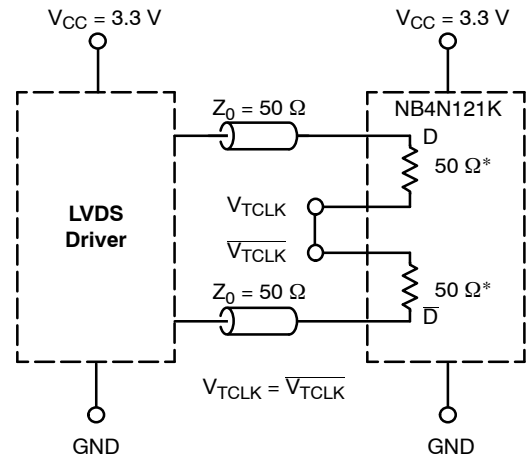

**Figure 9. Typical Termination Configuration for Output Driver and Device Evaluation**
- Input parameters vary 1:1 with  $V_{CC}$ . Measurements taken with outputs in either 1X (all outputs loaded  $50\ \Omega$  to GND) or 2X (all outputs loaded  $25\ \Omega$  to GND) configuration, see Figure 9. For 1X configuration, connect  $I_{REF}$  to GND, or for 2X configuration, connect  $I_{REF}$  to  $V_{CC}$ .
7. Measured by forcing  $V_{INPP}$  (MIN) from a 50% duty cycle clock source. Measurements taken with outputs in either 1X (all outputs loaded  $50 \Omega$  to GND) or 2X (all outputs loaded  $25 \Omega$  to GND) configuration, see Figure 9. For 1X configuration, connect  $I_{REF}$  to GND, or for 2X configuration, connect  $I_{REF}$  to  $V_{CC}$ . Typical gain is 20 dB.